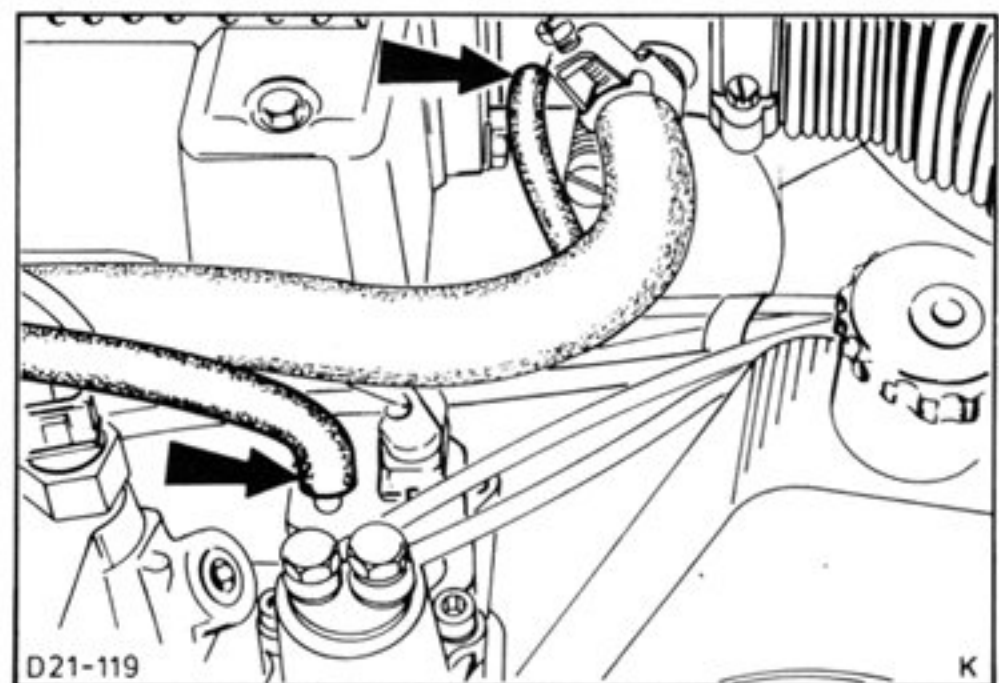

Fig.81. Pull off vacuum hoses.
5. Pull off vacuum hoses from warm-up regulator and from the throttle plate, Fig.81.